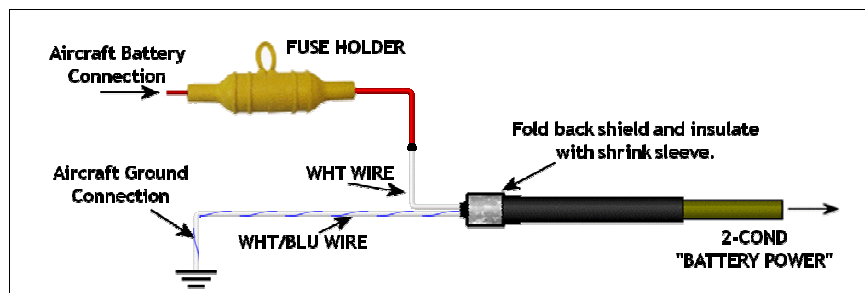

Figure C- 23: Aircraft Battery Final Wiring
- ⇒ Ensure that any connection to aircraft power incorporates a minimal wire length from the power source to the protection device, fuse or breaker. Recommended length is six (6) inches or less.
- ❑ 010 Refer to the appropriate wiring diagram and Figure C- 23. Trim the BAT PWR “AAV00B22” cable to length. Splice a supplied fuse into the “AAV00B22” wire. Connect the white (positive) wire to the supplied fuse, and then connect to the aircraft battery. Connect the white/blue (negative) wire to aircraft ground following the pin configuration below.